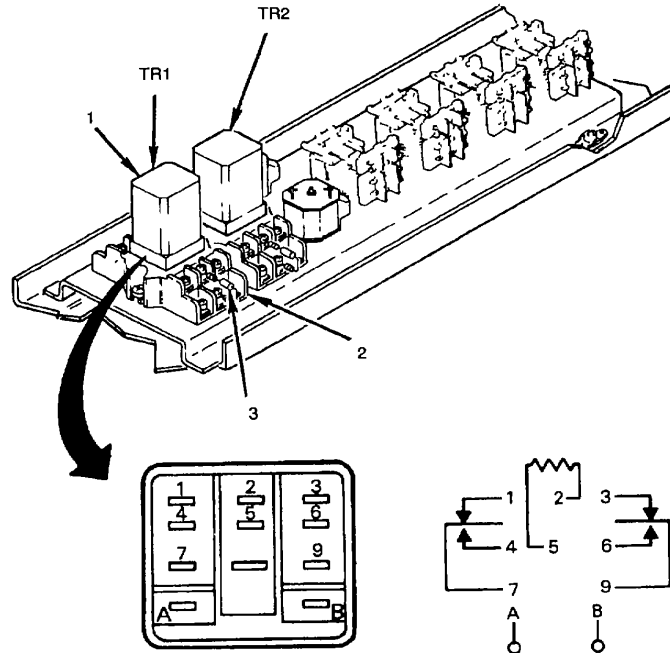

Figure 4-32. Time Delay Relays (TR1 and TR2)
- (1) Disconnect air conditioner input power at source; and
- (2) Remove control box assembly (paragraph 4 27).
- a. Check for loose wire connections (see fig 4-32)
- c. Check external resistor (3) for signs of overheating. Replace if damaged.
- a. Pull relays TRI and TR2 (1) from sockets (2).
- b. Using multimeter, measure resistance across external resistor (3). Resistance should be 285-315K for TR1 and 712-788K for TR2.